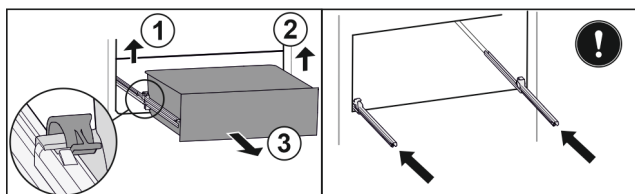

Fig. 231
- Lift left clamp and simultaneously pull drawer forwards on the left. Fig. 231 (1)
- Lift right clamp and simultaneously pull drawer forwards on the right. Fig. 231 (2)
- Remove drawer to the front. Fig. 231 (3)